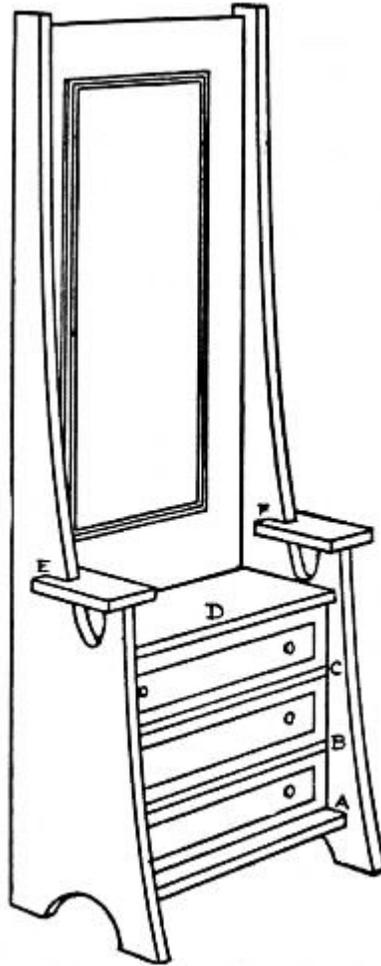

FIG. 137.—A Dresser.
**The Dresser** (Fig. 137) is made somewhat similar to the side-board. Cut the sides by the same pattern (Fig. 122) and fasten them to the edges of the back-piece, which should be six and one-half inches high by three inches wide. Cut shelf *A* three by one and one-quarter inches, *B* and *C* three by one and one-eighth, *D* three by one and three-sixteenths, and *E* and *F* one-half by one and one-quarter inches. Fasten shelf *A* between the sides at line No. 24 (see Fig. 122), *B* at line No. 23, *C* at line No. 22, *D* at line No. 21, and notch the ends of *E* and *F* to fit over the side-pieces at line No. 20.